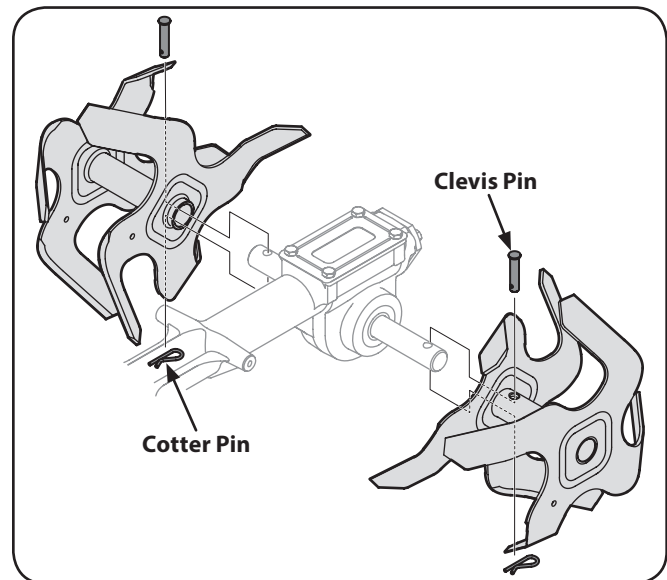

Figure 7-6
- To remove a tine assembly, simply remove the cotter pin securing the clevis pin as seen in Figure 7-6. Remove the clevis pin and slide the assembly to the outside of the unit and off of the tine shaft.